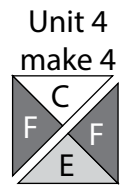

Fig. 4
4. Repeat Step 3 and refer to Figure 4 for fabric identification, placement and orientation to make (4) Unit 4 squares.